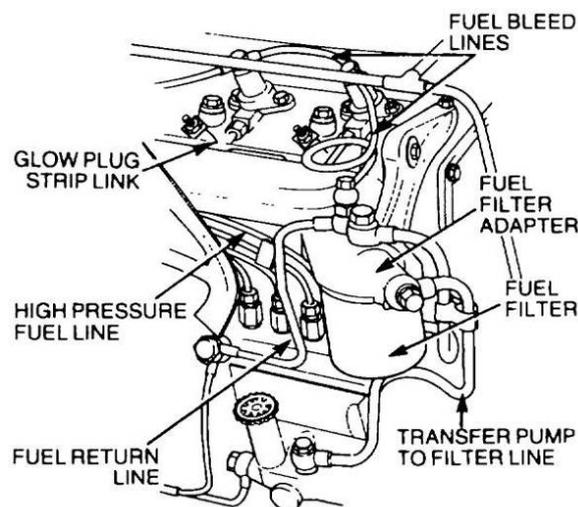

Figure 30 Installation of the Fuel Lines
- v. Connect the fuel bleed lines between each injector using new sealing washers and connect the fuel bleed line between number one cylinder injector and the fuel filter adaptor. Connect the remaining fuel lines to the filter adaptor (Figure 30) and tighten all the bolts securely.